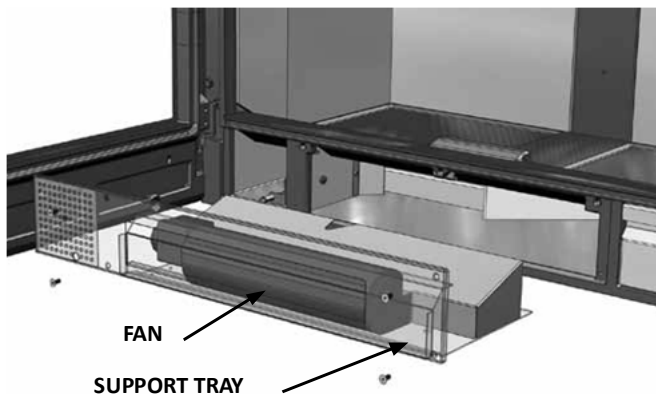

FIG. 2 - Nature 100
2. Once the 4 screws have been loosened (**two in the Nature 70/80 model**) remove the fan support tray (Fig. 2). Be especially careful when removing the tray so as not to cut or damage the wiring.